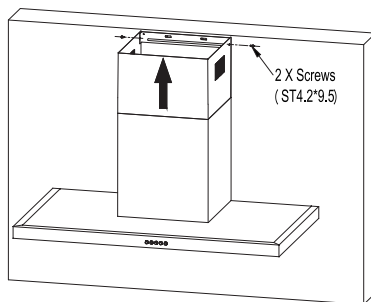

Fig.9
- Fit the extension chimney. See Fig.9.